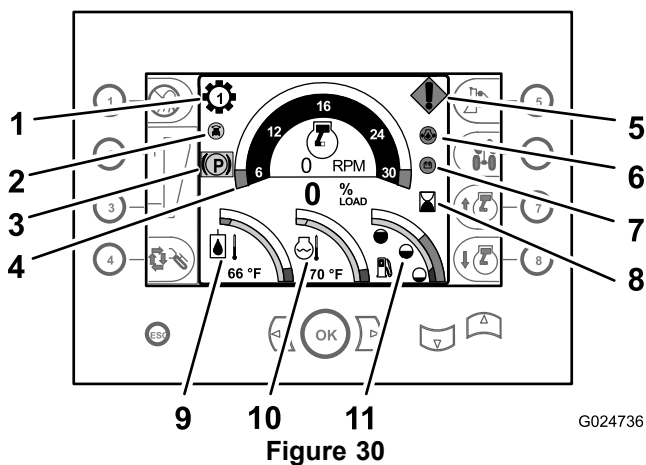
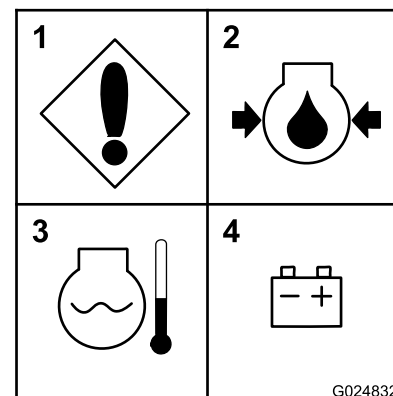

Figure 30
Figure 31
- **Gear indicator**—This indicator shows which gear is selected for the transmission (gears 1 through 4) and is displayed above and to the left of tachometer (Figure 30).
- **Auto-tilt indicator** (optional kit)—This on/off indicator displays whether the auto-tilt function is active. The auto-tilt indicator is located just below and to the left of the gear indicator (Figure 30).
- **Tachometer**—The tachometer indicates the engine speed in revolutions per minute (rpm). The tachometer is displayed in the upper center of the command-center display (Figure 30).
- **Hour meter**—The hour meter indicates the number of hours that the engine has run. It is displayed in the center right area of the command display, to the right of the tachometer (Figure 30).
- **Hydraulic-fluid temperature indicator**—This indicator shows the operating temperature of the hydraulic fluid and is displayed in the lower left area of the command display (Figure 30).
- **Coolant temperature indicator**—This indicator shows the temperature of the coolant in the engine-cooling system. It is displayed in the lower center area of the instrument cluster (Figure 30).
- **Fuel-level indicator**—This indicator shows the remaining level of fuel that is in the tank, and it is displayed in the lower right area of the command display (Figure 30).
- **Machine or engine error**—This message is displayed if the machine or engine experiences a fault. The cause of the fault is given in the Instrument Panel Diagnostics (Figure 30 and Figure 31).
- **Low engine-oil pressure**—This warning message is displayed if there is no or low oil pressure in the engine (Figure 30 and Figure 31).
- **Engine overheated**—This message is displayed if the engine is overheated (Figure 30 and Figure 31).
- **Check alternator or battery**—This message is displayed if the alternator is not charging the battery (Figure 30 and Figure 31).